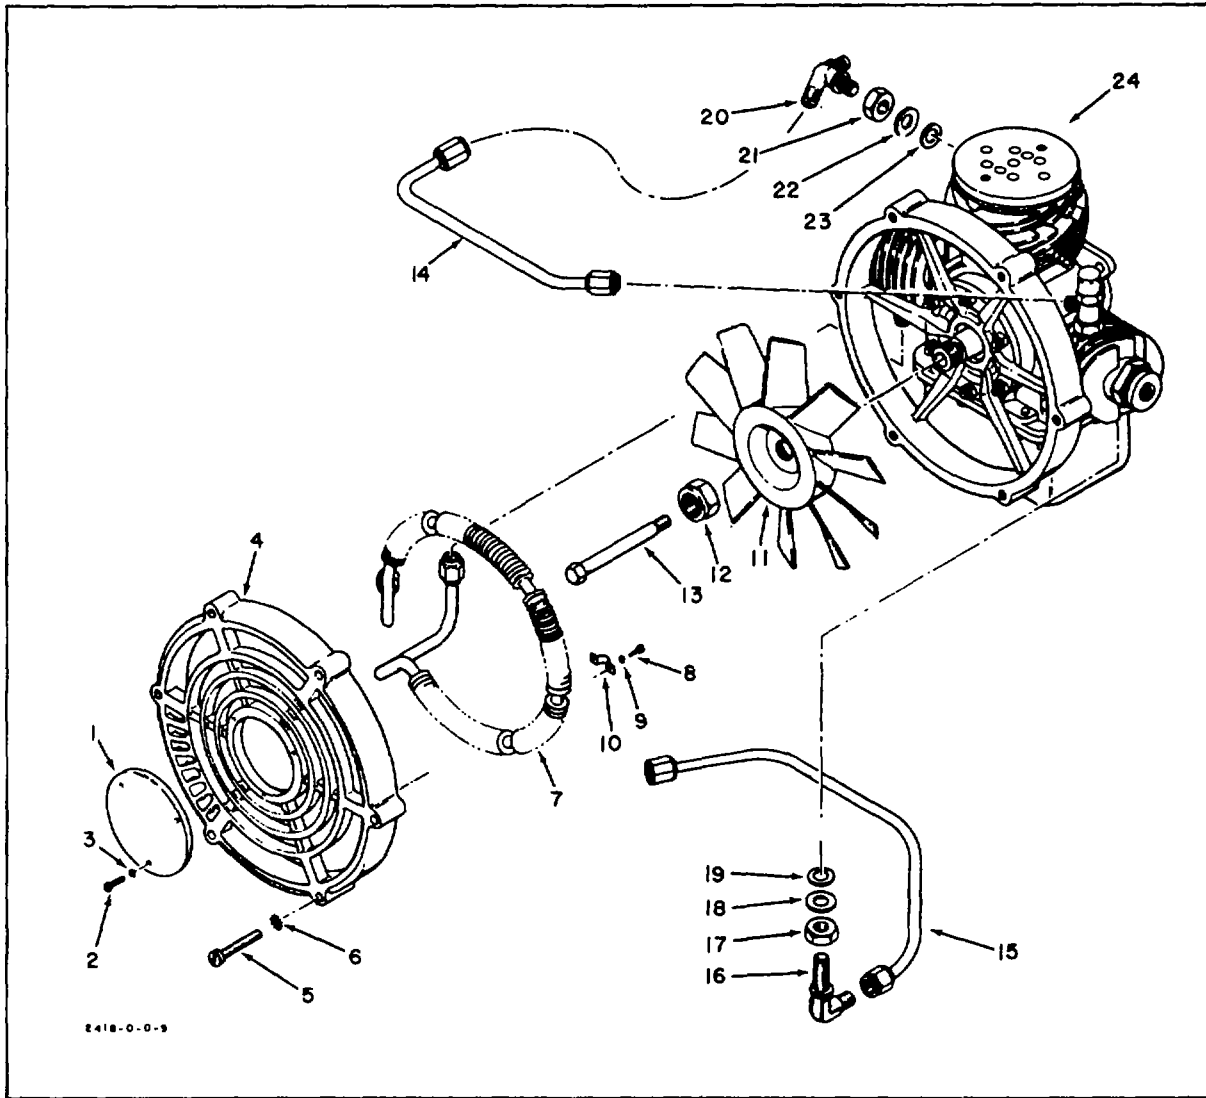

Figure 2-10. Aftercooler and Fan
- 1	First stage (See figure 2-10 for NHA)